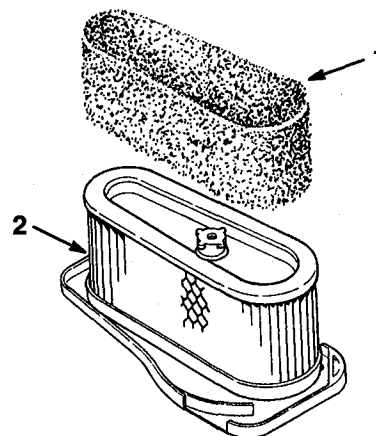

Figure 29
4. Carefully slide the foam element off the paper element (Fig. 29).
1. Carefully slide the foam element onto the paper air cleaner element (Fig. 29).